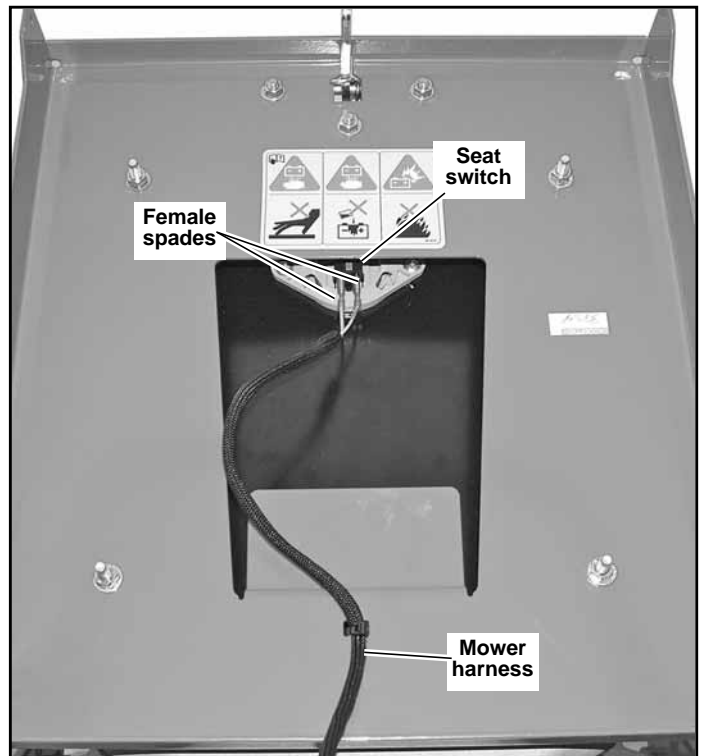

Figure 4-2
4. Raise the seat platform and disconnect the mower harness from the seat switch. Bypass the seat switch by connecting the two mower harness female spades together. Figure 4-2
18. **IMPORTANT:** With the engine off, disconnect the two female spade connectors from each other (from step #3) and reconnect them to the seat switch. This must be completed so that the safety circuit is functioning properly. Figure 4-2